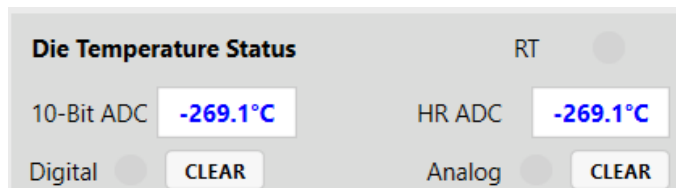

Figure 36: Die Temperature Monitor
31. Figure 36 shows the die temperature monitor.